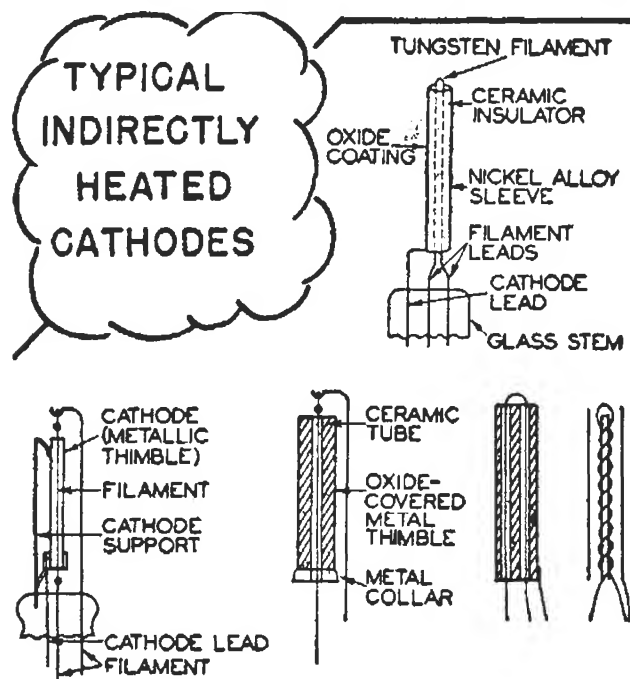

FIG. 7. A separately heated cathode emits electrons.
► In the indirectly heated cathode, the filament merely furnishes heat to the electron-emitting cathode, which is a separate element. The construction of several indirectly heated cathodes is shown in Fig. 7. The filament is threaded through holes in a ceramic insulator, which is placed inside a nickel-alloy sleeve or "thimble." This metal sleeve has the oxide coating